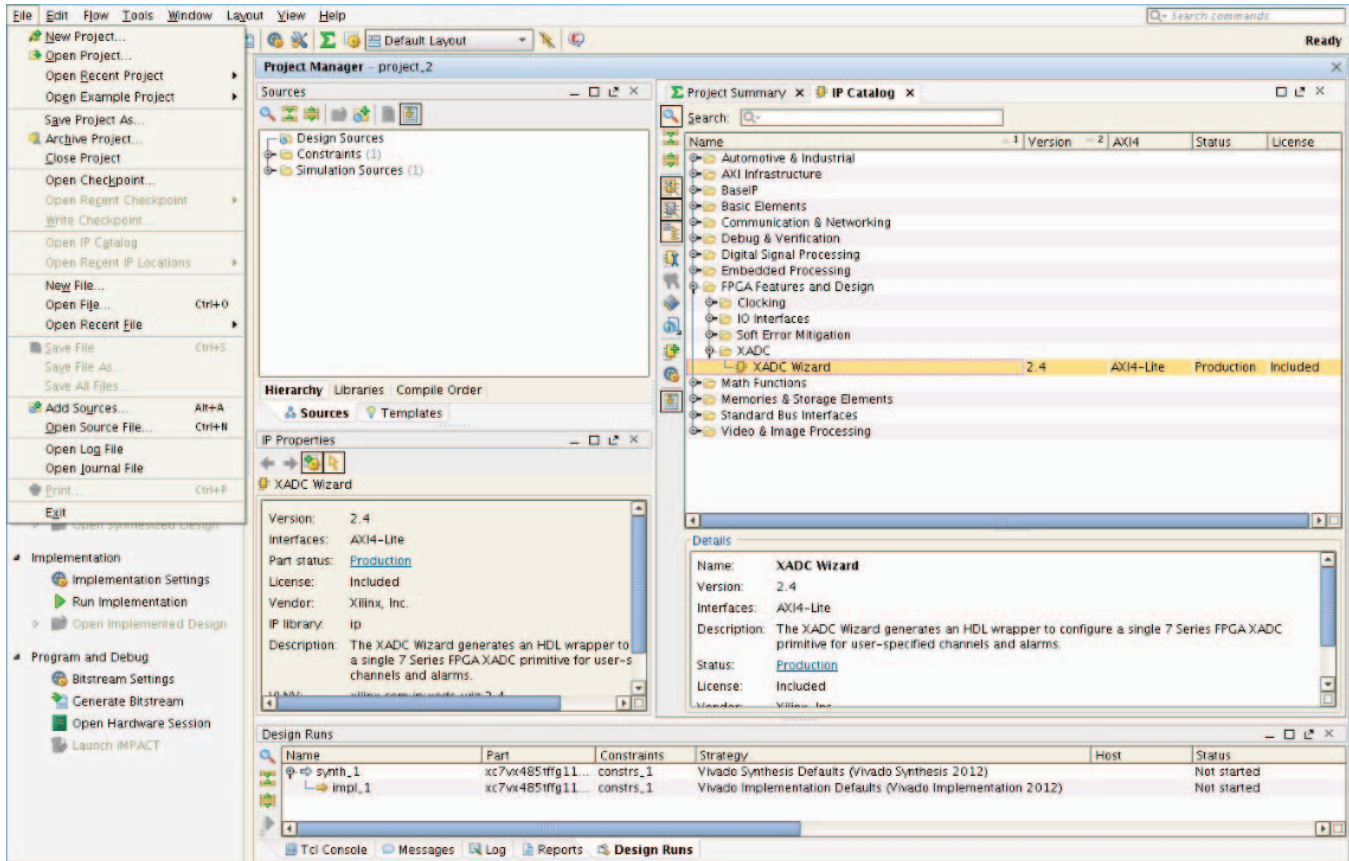

Figure 4-1: New Project
3. Choose **File > New Project** (Figure 4-1).
/FPGA Features and Design/XADC. (see Figure 4-1)